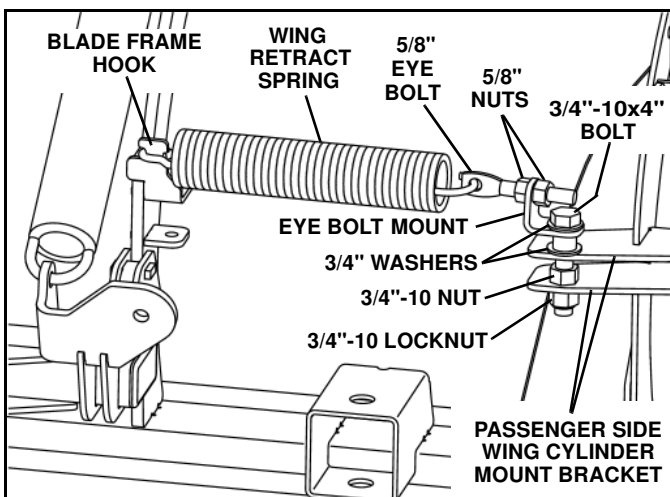

Figure 1-11
7. Slide the closed end of the wing retract spring over the hook on the blade frame. (See Figure 1-11).
8. Insert the other end of the wing retract spring thru a 5/8" eyebolt. Thread a 5/8" nut onto the eyebolt until there are 4-6 threads showing between the nut and the eye of the eyebolt. Inert the eyebolt thru the eye bolt mount and secure with a 5/8" nut. (See Figure 1-11).